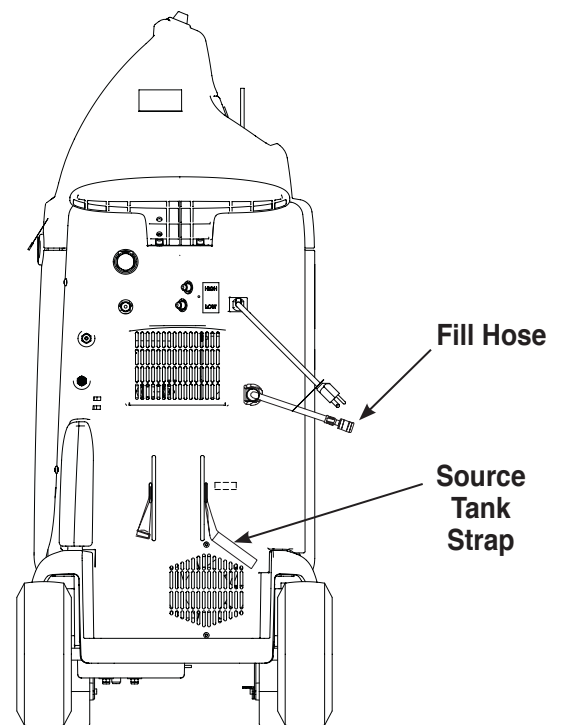

Figure 10
2. Connect the fill hose to the liquid connector on a full source tank, and open the source tank valve. See Figure 10.